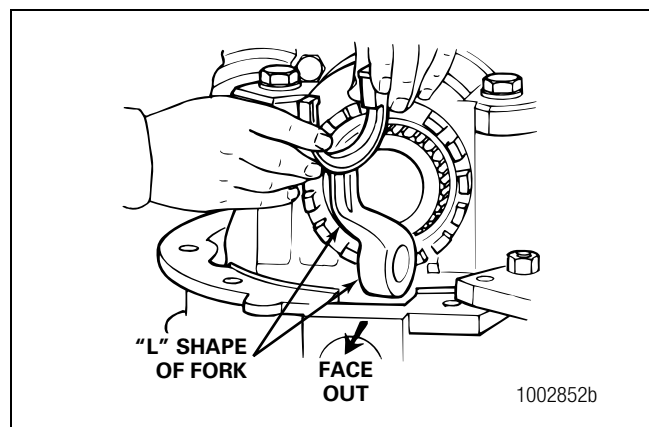

Figure 6.17
1. Install the shift fork into the shift of the carrier. The "L" shape of the fork and the bore for the shift shaft must face out toward the cylinder bore in the side of the carrier. Figure 6.17.